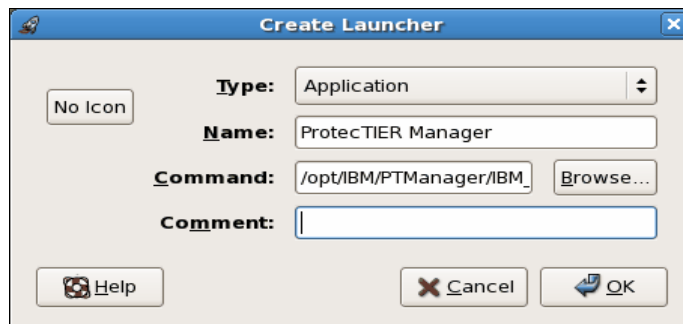

Figure 5-19 Create launcher
16. You can also create a shortcut on your desktop. Right-click your desktop and select **Create Launcher** and a window opens (Figure 5-19).